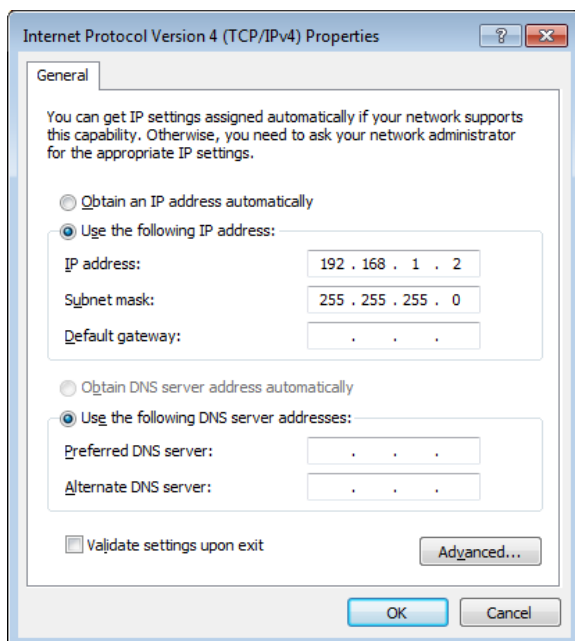

Figure 1.14. Static IP configuration of PC
1. Use one of the network cards and set it to static IP in TCP/IPv4 using the IP address **192.168.1.n**, where n=[2..9] and the mask **255.255.255.0**, see Figure 1.14 (go to Control Panel → Internet Options → Network and Internet → Network and Sharing Center → Local Area Connection → Properties).